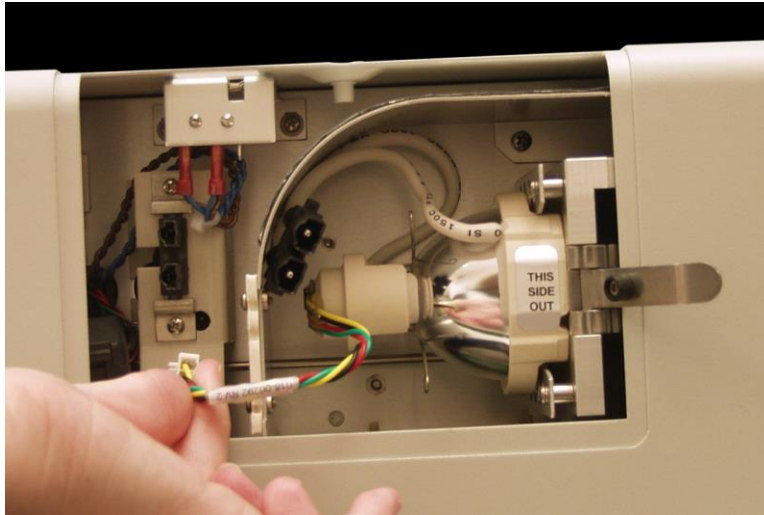

Figure 6 Intelli-Lamp Connection
- 4.1.7 Locate the 4-pin Intelli-Lamp sensor connector (multi-coloured wiring harness) at the rear of the lamp module and connect it to its mate located on the lamp-housing wall. Reference Figure 6.